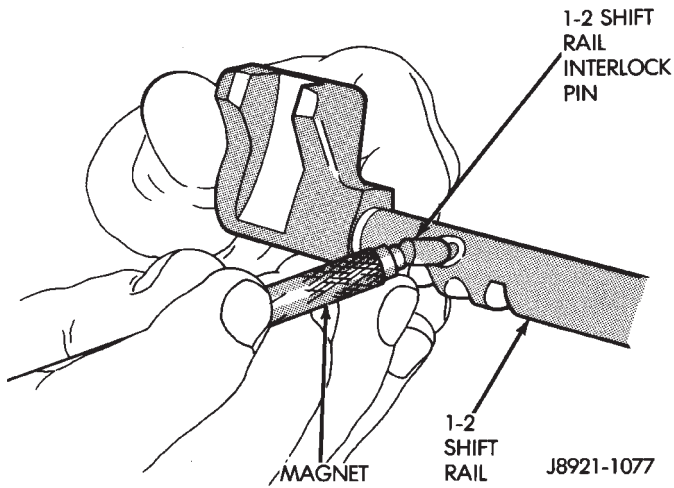

Fig. 86 Install 1-2 Shift Rail Interlock Pin
(15) Install interlock pin in 1-2 shift rail (Fig. 86).